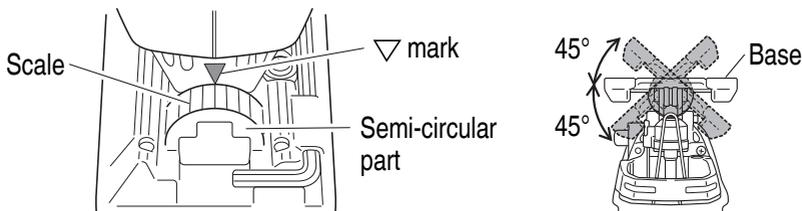

Fig. 18
- (2) Align the scale (from 0 degrees to 45 degrees by 15-degree increments) of the semi-circular part of the base with the [▽] mark on the gear cover. (Fig. 18)